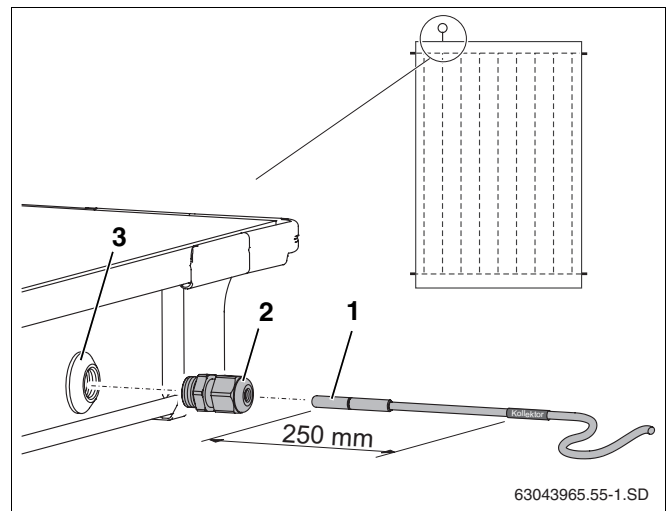

Fig. 54 Inserting the collector sensor into the collector
For perfect functioning of the solar heating system, the collector sensor (Fig. 54, **Item 1**) needs to be inserted into the sensor guide tube as far as it will go (approx. 250 mm).
- ▶ Using the collector sensor or screwdriver, push through the sealing membrane on the sensor bush (Fig. 54, **Item 3**).
- ▶ Screw compression fitting (Fig. 54, **Item 2**) into sensor bush.
- ▶ Tighten compression fitting (Fig. 54, **Item 2**), counterhold if necessary.
If you accidentally push through the sensor bush (Fig. 54, **Item 3**) on the wrong collector, it can be resealed using the plug from the connection kit. However, you must first remove the nut in the sensor bush using the cable gland (Fig. 54, **Item 2**).